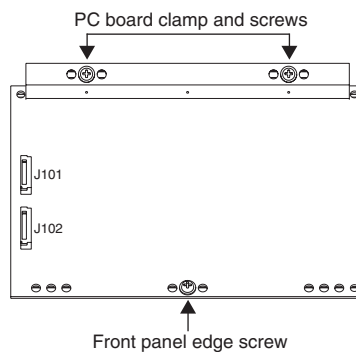

Figure 4-9 Slider Board, screw locations
4. Two of the screws that secure the left enclosure support wall also secure the front panel edge of the Slider Board. You have already removed the enclosure support wall, but one screw remains securing this edge of the board. See Figure 4-9, and remove the remaining screw.
2. Align the center screw hole on front panel edge with the thread marks in the extrusion and install the screw that secures the front panel edge of the Slider Board. See Figure 4-9.